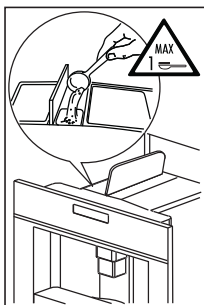

Fig. 26
- Lift the central lid, place one measure of preground coffee in the funnel (Fig. 26), push the appliance in then proceed as described in the section "Making coffee using coffee beans".